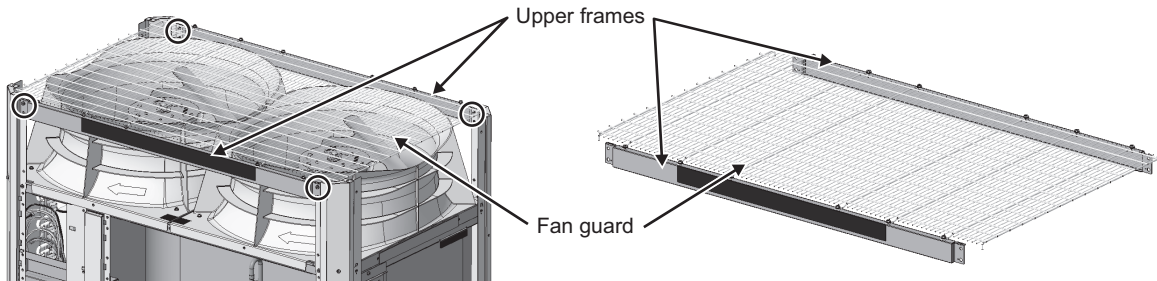

Fig. 59
(6) Remove the fan guard and the upper frame. (Four screws: Fig. 59)